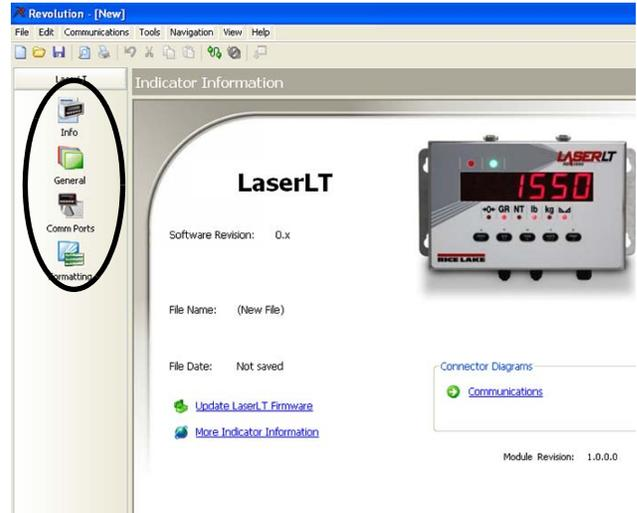

Figure 3-13. New File Screen
3. The chosen screen will appear as shown in Figure 3-13.